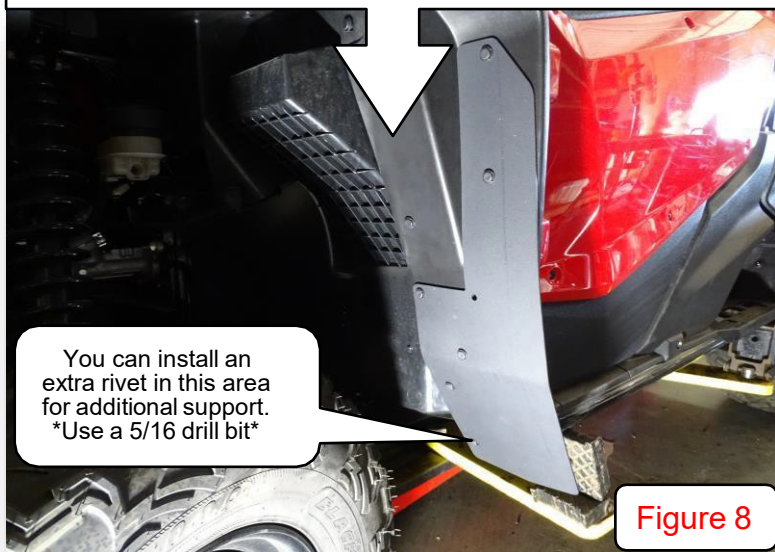

Figure 8
1) Determine how much coverage you need on the outside of your fender. In Figure 8, we're installing the fender flares onto a factory width vehicle, so we require very little side coverage.